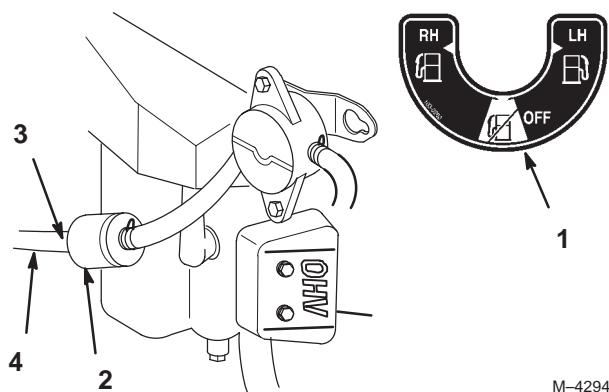

Figure 42
5. Install a new filter and move the hose clamps close to the filter (Fig. 42).
2. Close fuel shut-off valve (Fig. 42).
3. Loosen the hose clamp at the fuel filter and slide it up the fuel line away from the fuel filter (Fig. 42).
4. Pull the fuel line off fuel filter (Fig. 42).
5. Open fuel shut-off valve for left and right tanks. Allow gasoline to drain into a gas can or drain pan. (Fig. 42).
6. Install the fuel line onto the fuel filter. Slide the hose clamp close to the fuel filter to secure the fuel line (Fig. 42).